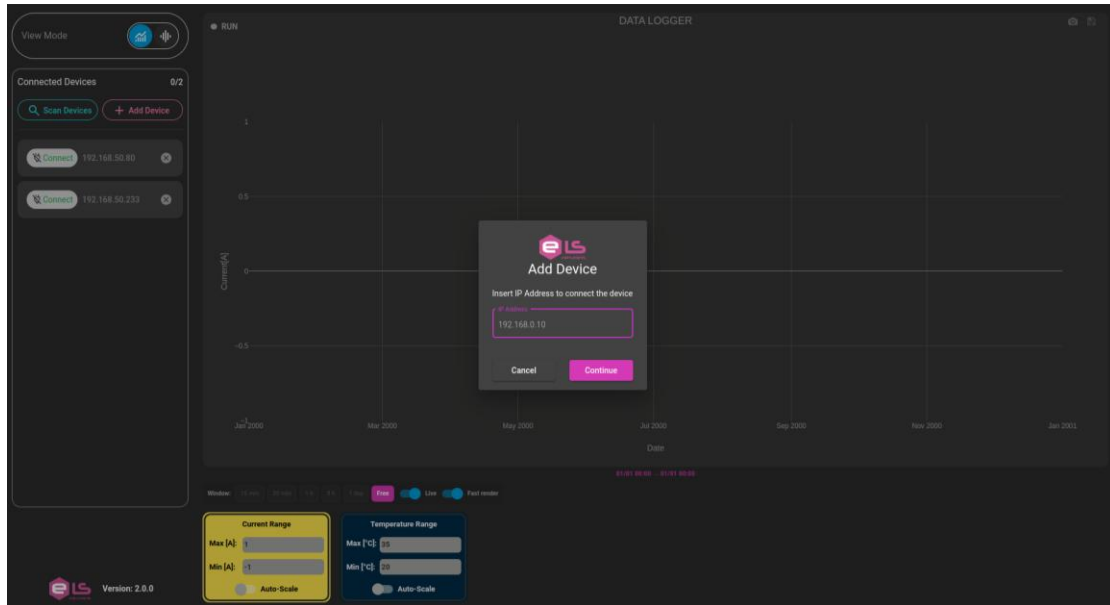

Figure 8: Add Device popup.
- **Add Device:** This button allows for the manual addition of a specific CT-BOX unit by entering its IP address (see **Figure 8**).